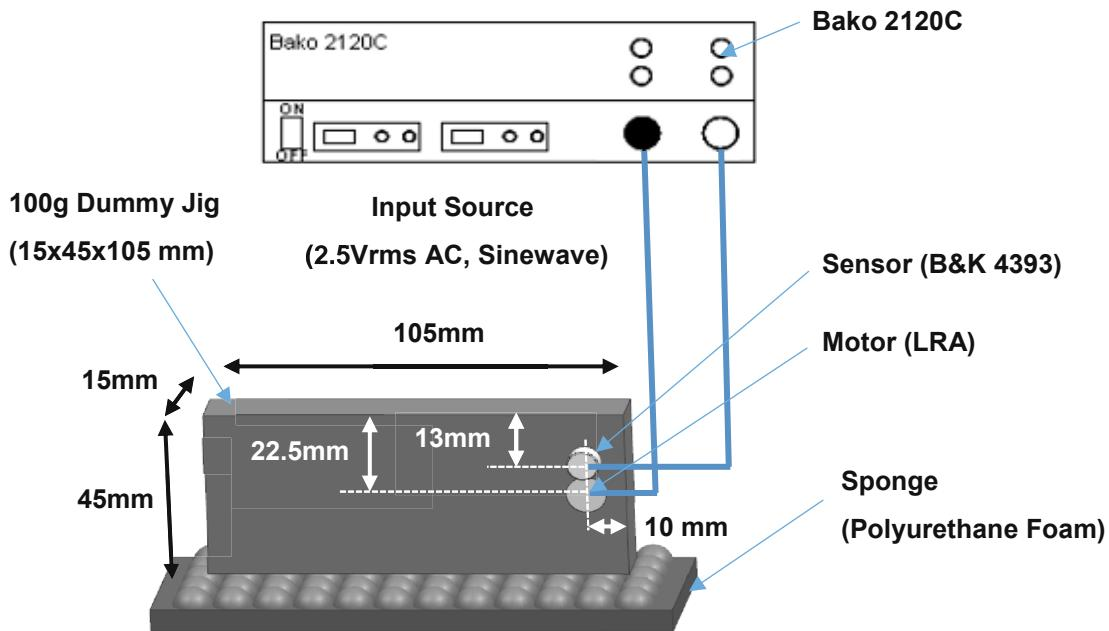

Figure 1. An Example of Measurement Method of Linear Vibrator
**Position of Linear Vibrator and Accelerometer (Refer to Figure 1)**